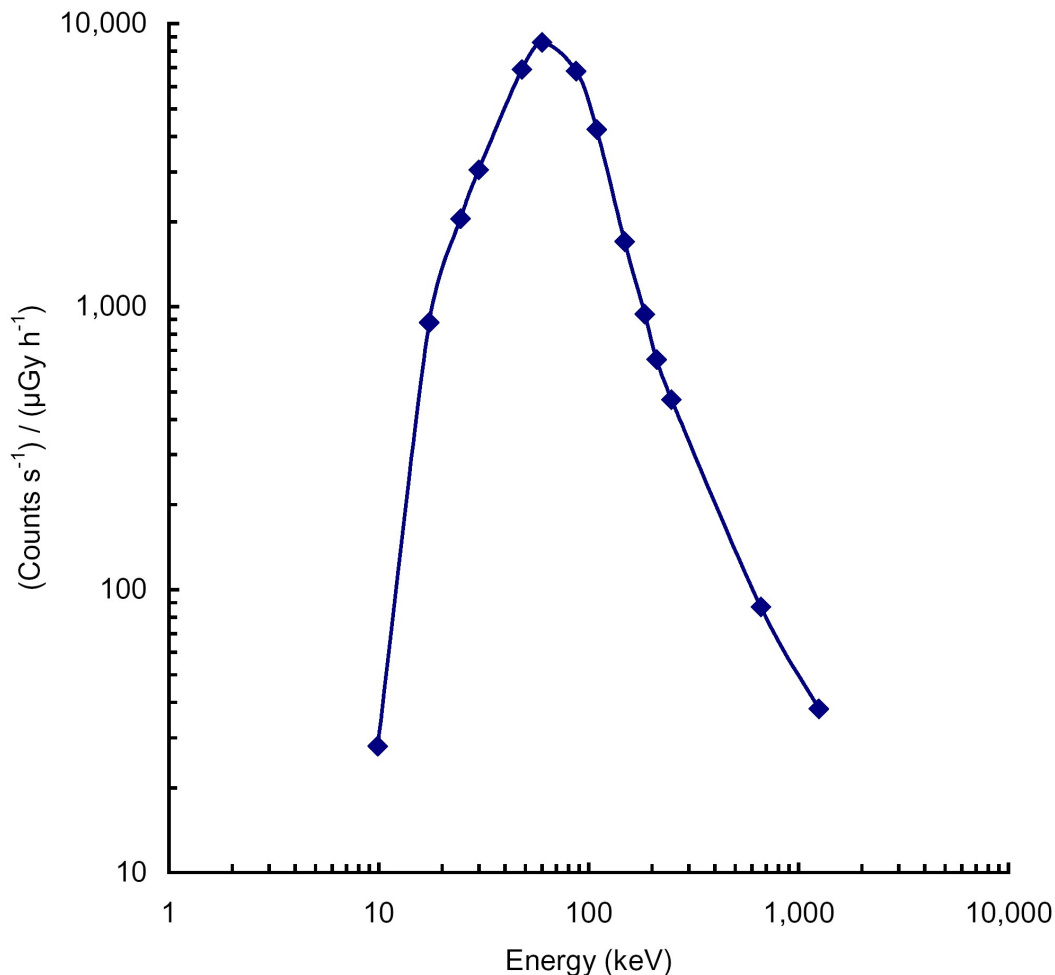

FIGURE C2 Typical response of a thin sodium iodide scintillation detector for x and gamma air kerma rate
- A very rapid change in response with energy when measuring dose rate. See Figure C2.